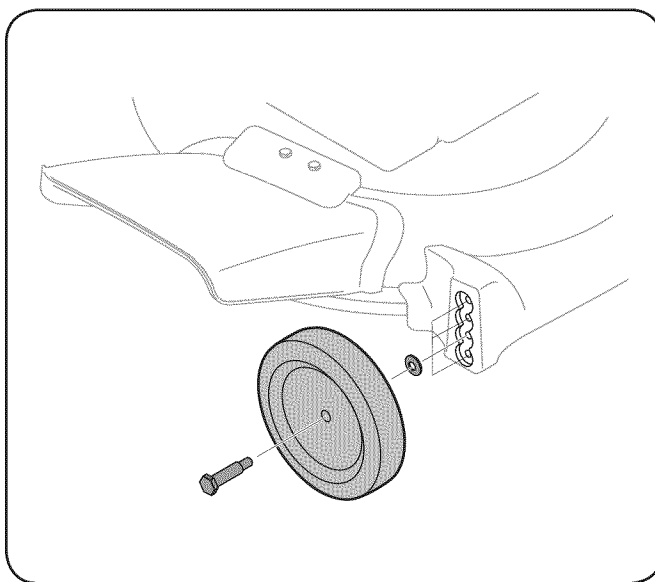

Figure 3-9
1. Remove the shoulder bolts and washers from the wheels as shown in Figure 3-9.